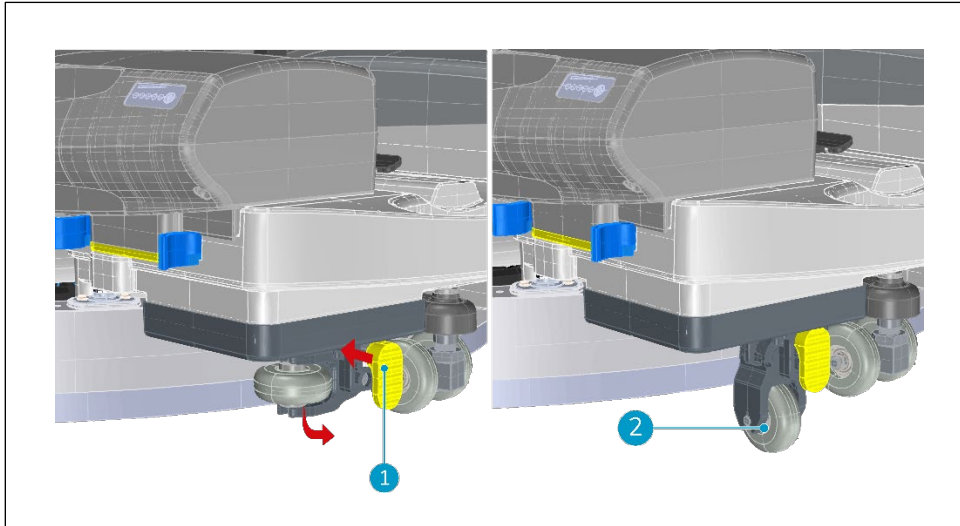

Figure 25
2. Push the lever (Figure 25, pos. 1) following the arrow .
3. Pull the lifter kit down. The wheel will go down (Figure 25, pos. 2).
6. To deactivate push the lever.(Figure 25, pos 1) The weight of the machine will push the lifter kit in.